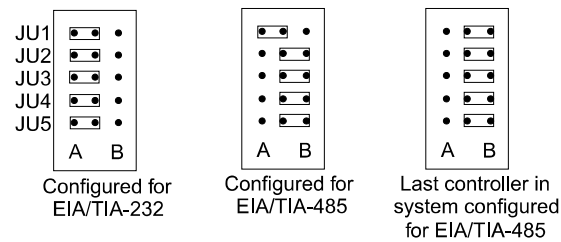

Figure 9.5 Jumper Configurations
To switch between EIA/TIA-232 and EIA/TIA-485, change the jumpers as shown in Figure 9.5.
5. Use tweezers to gently slide jumpers JU2, JU3, JU4 and JU5 onto the correct pins (see Figure 9.5).